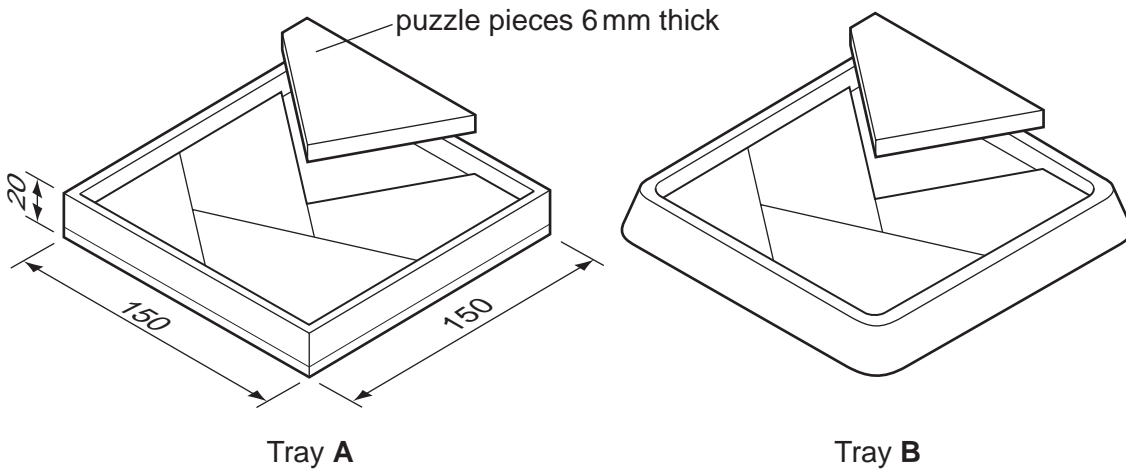

Fig. 6
- 13 Fig. 6 shows two tray designs for a puzzle.